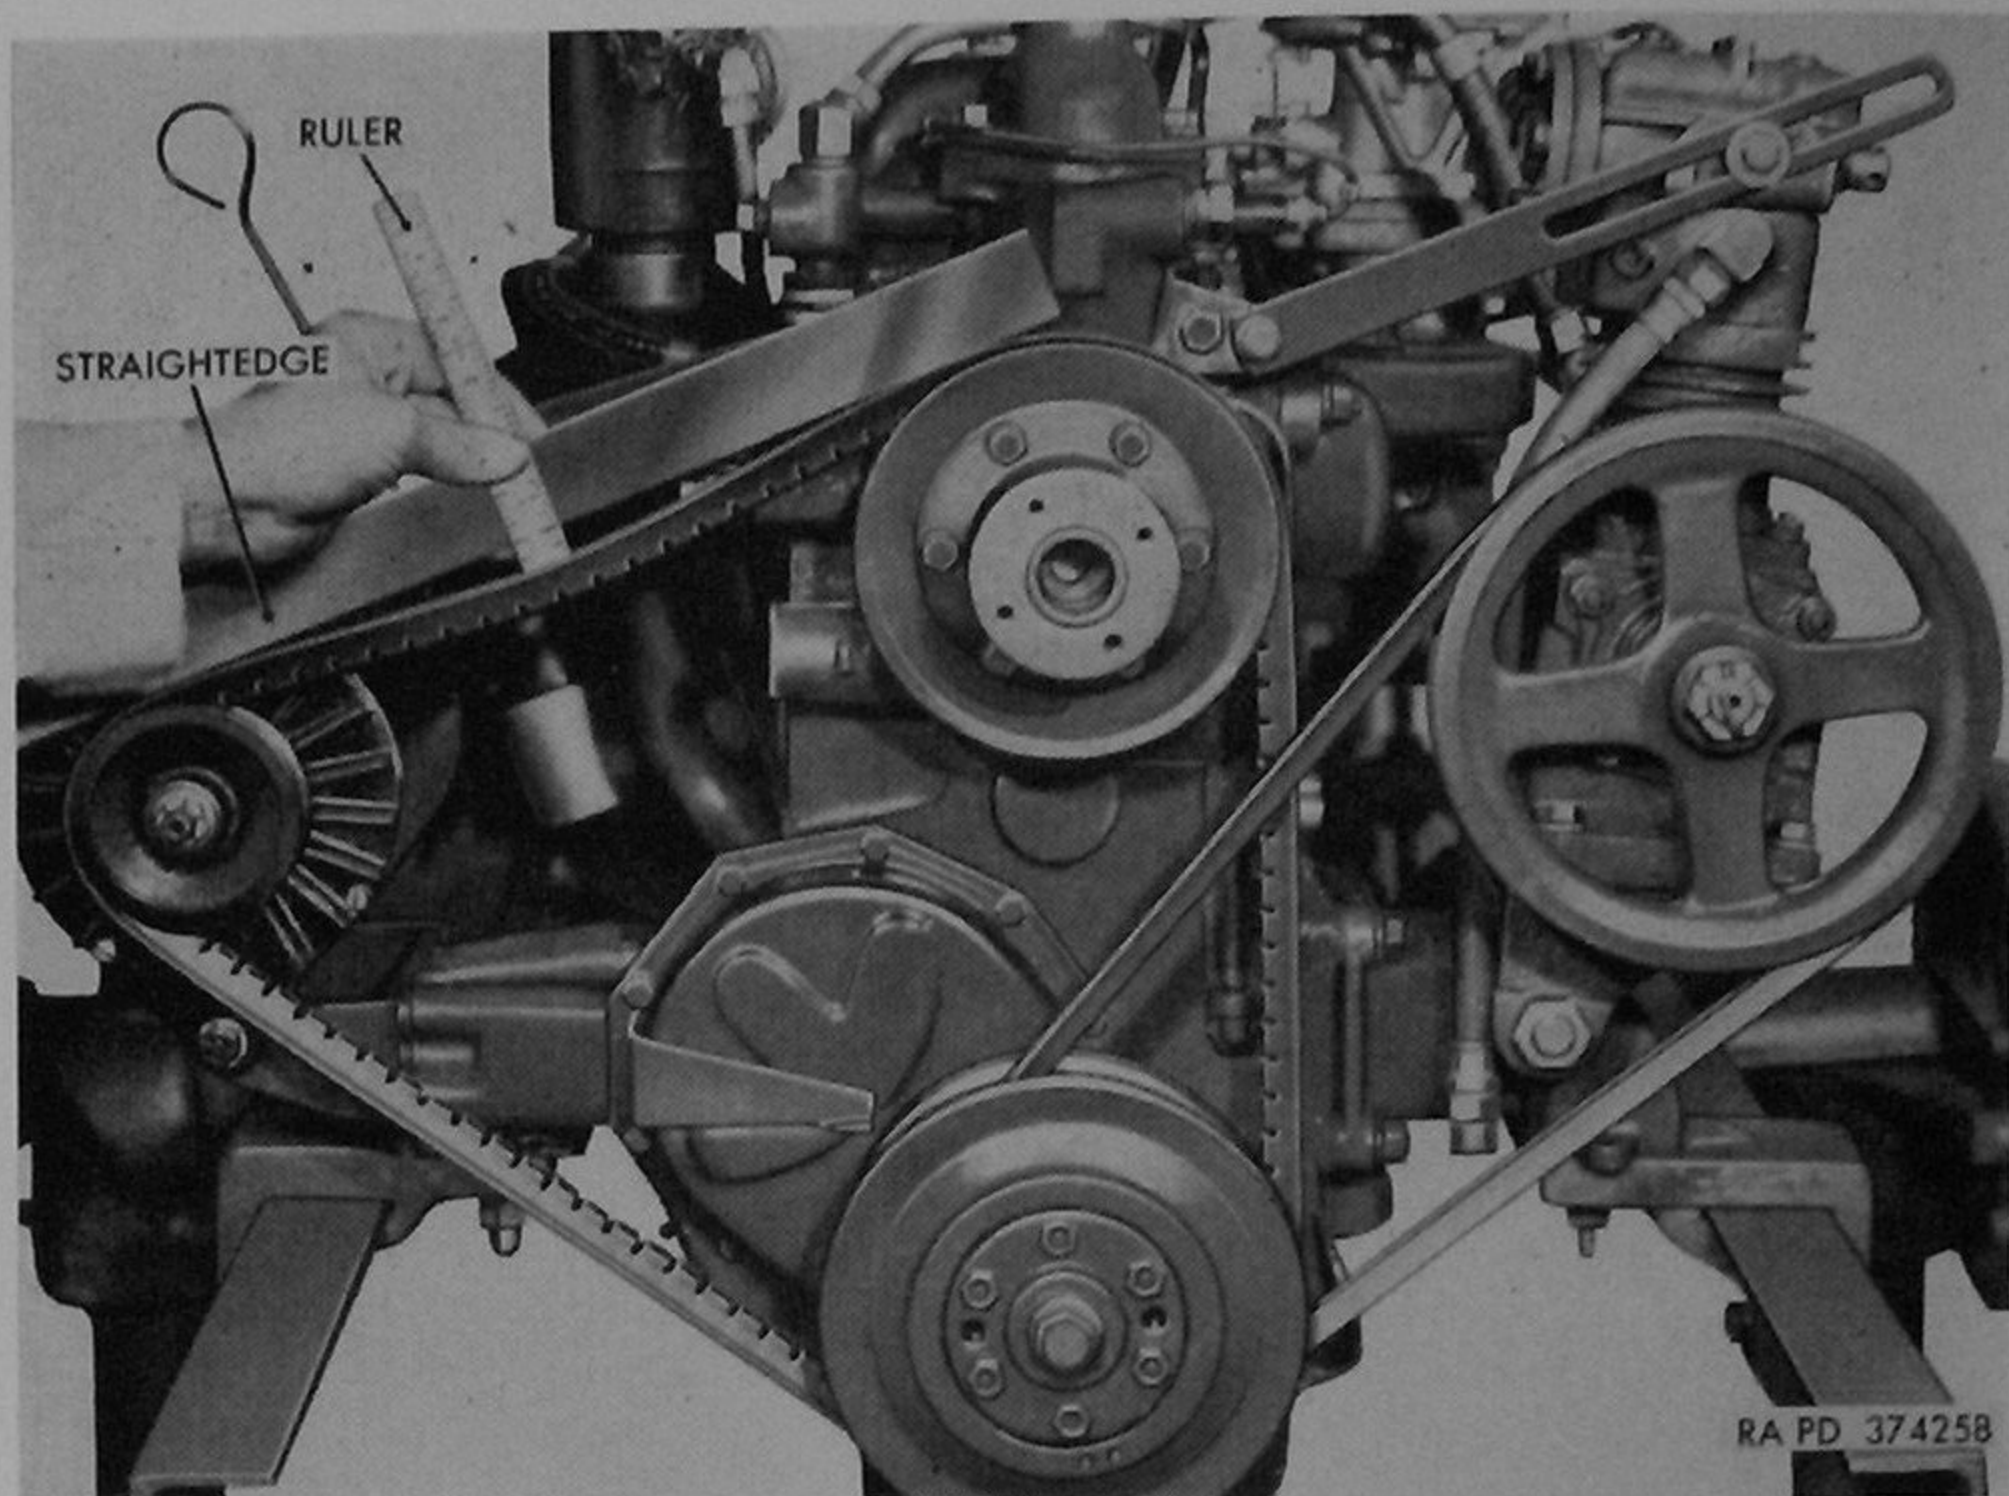

Figure 180. Checking drive belt tension—engine assembly 7411599 shown.
- (1) Place generator and water pump drive belt (C, fig. 14) over pulleys. Adjust belt tension by moving generator with pulley assembly (Q) as necessary to obtain correct tension. Tension is correct when light pressure applied midway between generator and water pump pulleys causes  $\frac{1}{2}$  to  $\frac{3}{4}$ -inch deflection (fig. 180).
- (2) After adjusting tension, tighten  $\frac{3}{8}$  x 1 bolts (D and F) attaching belt tension adjusting arm (J) to generator end frame and to engine thermostat lower housing (E) to 20 to 30 pound-feet torque. Tighten generator mounting  $\frac{7}{16}$  x  $1\frac{5}{16}$  bolts (K) to 50 to 60 pound-feet torque.
manner shown in figure 180. Tension is correct when light pressure applied midway between idler and water pump pulleys causes a  $\frac{1}{2}$  to  $\frac{3}{4}$ -inch deflection.
- (1) Place generator and water pump drive belt (F, fig. 22) over pulleys. Adjust belt tension by moving generator with pulley assembly (N) to obtain correct tension. Check tension in manner shown in figure 180. Tension is correct when light pressure applied midway between generator and water pump pulleys causes a  $\frac{1}{2}$  to  $\frac{3}{4}$ -inch deflection.
- (2) After adjusting tension, tighten bolts (C and E) attaching belt tension adjusting arm (G) to generator end frame and to engine thermostat housing (D) to 20 to 30 pound-feet torque. Tighten generator  $\frac{7}{16}$  x  $1\frac{1}{4}$  bolts (H) to 50 to 60 pound-feet torque.
- (1) Install air compressor drive belt (J) over pulleys and move compressor to adjust belt tension in manner shown in figure 180. Tension is correct when light pressure applied midway between pulleys causes  $\frac{1}{2}$  to  $\frac{3}{4}$ -inch deflection.